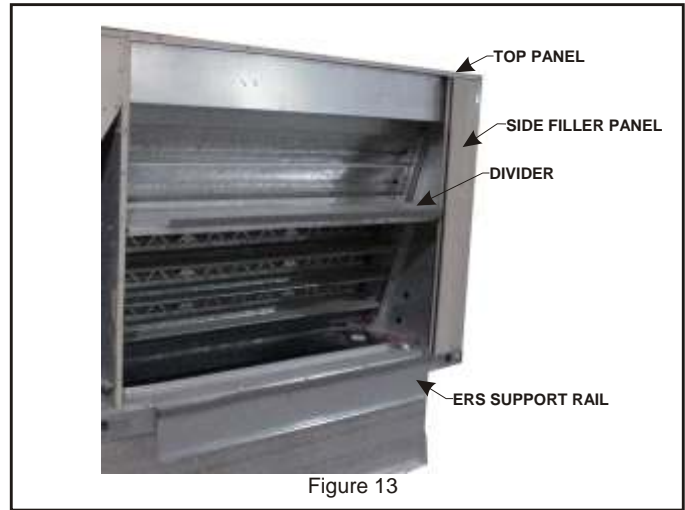

Figure 13
- Install the side filler panel that is closest to the filter access panel of the unit. Remove the 1st, 3rd, 5th screws from the bottom in the corner post along the return air opening. Set the side filler panel so the screws removed can be reinstalled to same holes. **See Figure 13.**